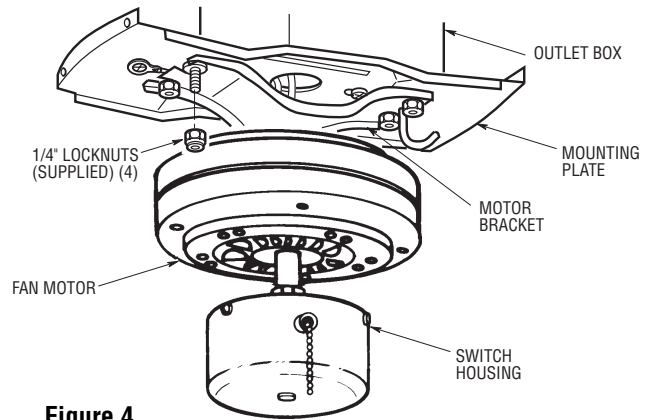

Figure 4
- 3. Once wiring is completed, lift the motor bracket so that the four threaded studs on the mounting plate protrude through the four slot in the motor bracket. (See Figure 4.)